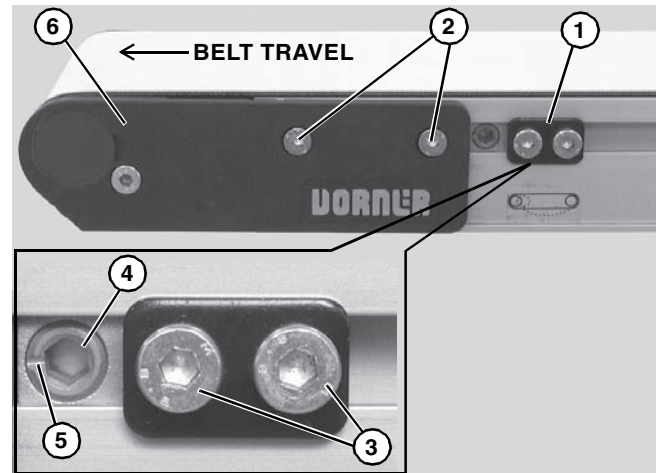

Figure 29
Non V-guided belt conveyors are equipped with belt tracking cam assemblies (**Figure 29, item 1**) for belt tracking adjustment.
5. Ensure head plate fastening screws (**Figure 29, item 2**) on both sides of conveyor are tightened.
6. On both sides of conveyor, loosen two (2) cam fastening screws (**Figure 29, item 3**). Adjust cams (**Figure 29, item 4**) until indicator slots (**Figure 29, item 5**) are horizontal and facing end of conveyor. Then slide cam assemblies against head plates (**Figure 29, item 6**) and re-tighten cam fastening screws (**Figure 29, item 3**) to 60 in-lb (7 Nm).
7. On the side toward which the belt is tracking, loosen head plate fastening screws (**Figure 29, item 2**).
8. With the conveyor running, use a 5 mm hex-key wrench to rotate the tracking cam (**Figure 29, item 4**) in small increments until the belt tracks in the center of the conveyor. Then while holding the cam in position, re-tighten the head plate fastening screws (**Figure 29, item 2**) with a 4 mm hex-key wrench to 60 in-lb (7 Nm).